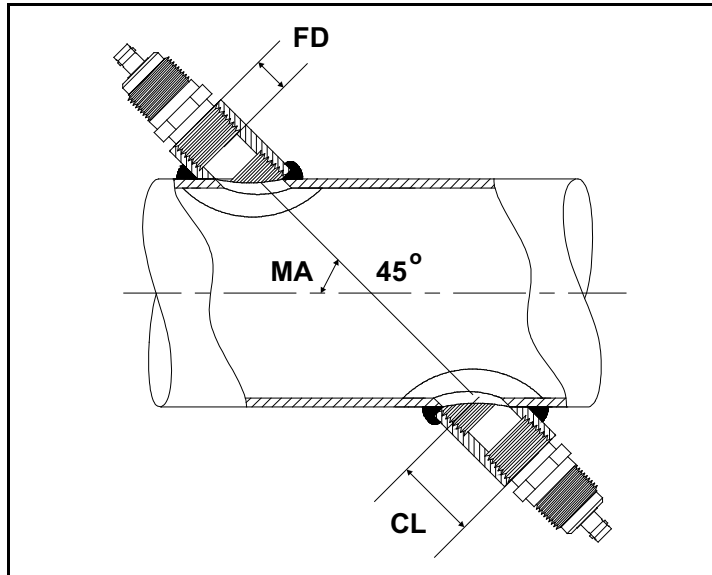

Figure 16: Determining the Coupling Length
Use *Figure 16* below to properly measure the coupling length. Typically, the transducer face is positioned just outside the inside diameter (ID) of the pipe, or slightly retracted inside the coupling.